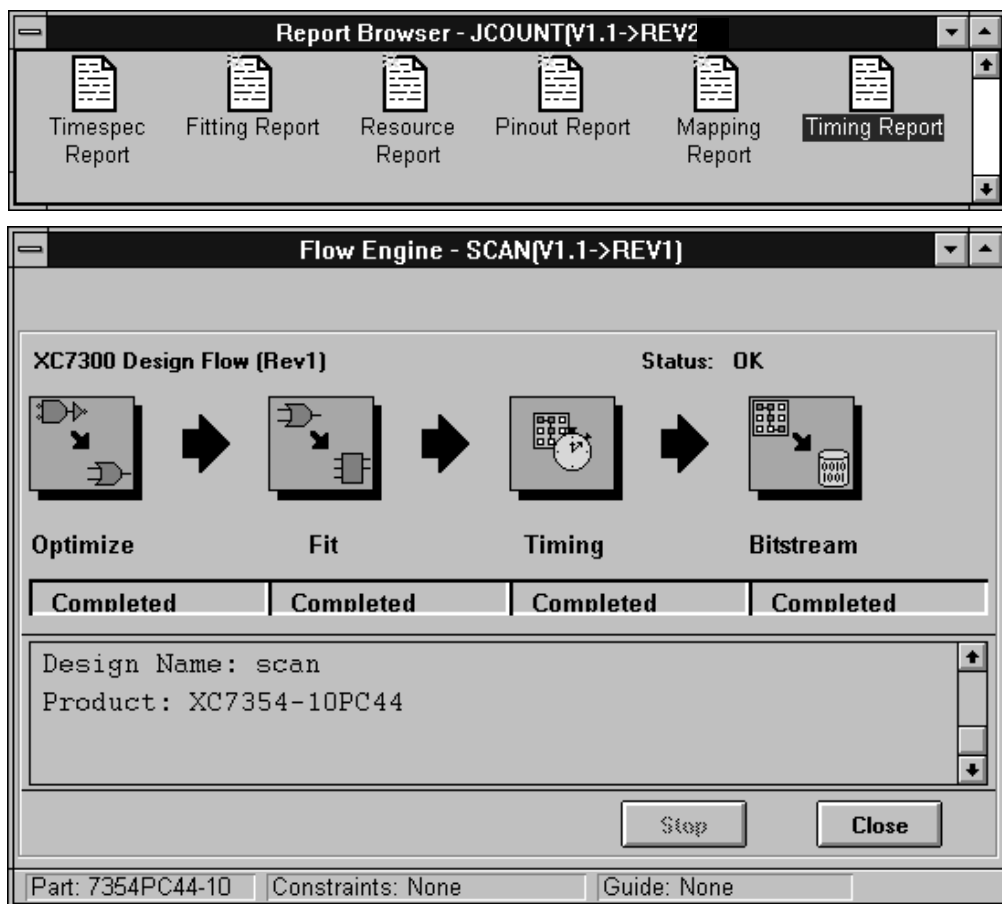

Figure 1-10 Flow Engine Window (Non-Interactive)
3. Click Run to implement the design. The Flow Engine window appears as in Figure 1-10, displaying the stages in the design processing. As reports are generated, you see their icons appear in the Report Browser window.